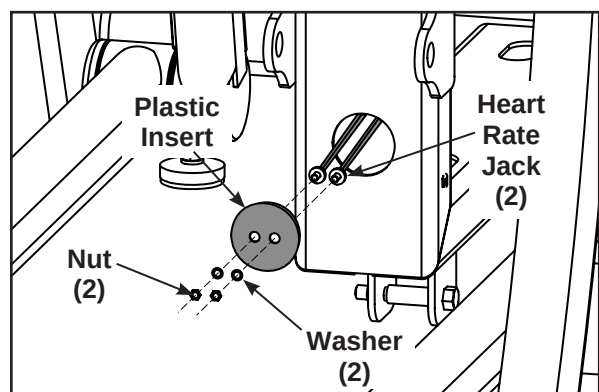

Figure 8
- B. Using a 5/16" nut driver or wrench remove the nut and washer from the two heart rate jacks as shown in figure 8.
- A. Install new plastic insert (A) on the two heart rate jacks as shown in Figure 8.
- B. Using a 5/16" nut driver or wrench attach the nut and washer (removed in step 9B) to each of the two heart rate jacks as shown in figure 8. **NOTE:** Hold heart rate wires to prevent them from twisting.